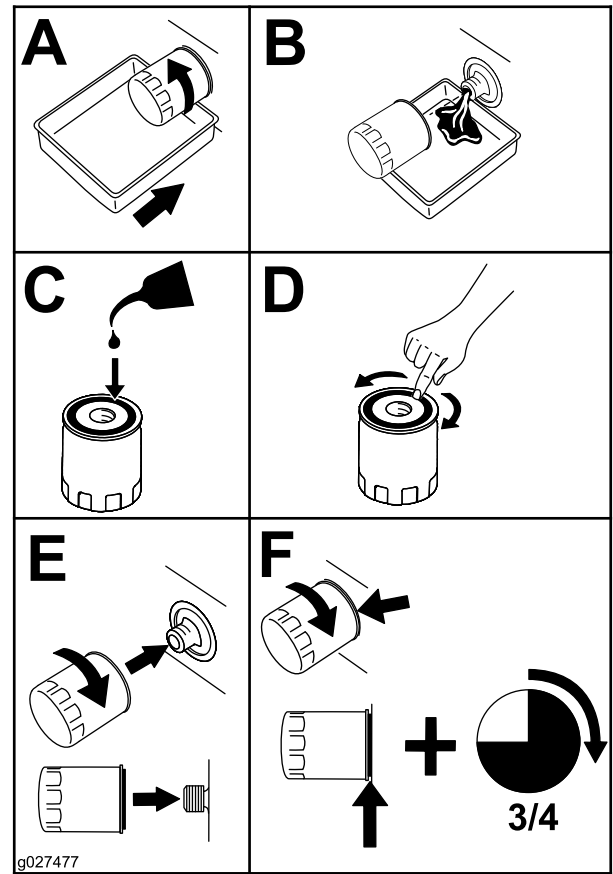

Figure 61
5. Change the engine-oil filter (Figure 61).